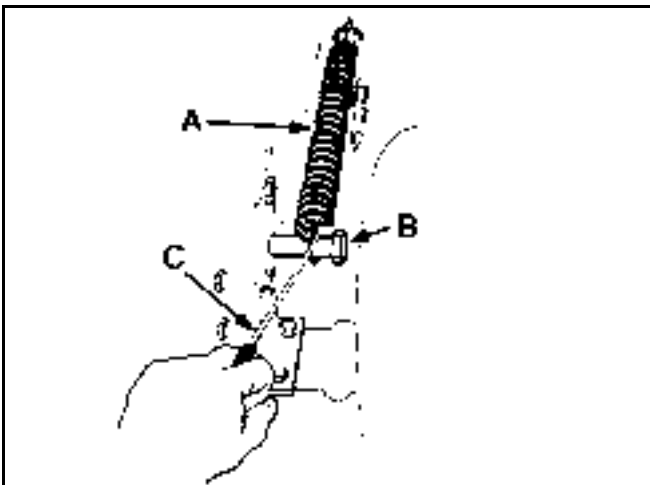

Figure 204
11. Hook the height-of-cut lift assist spring onto the retaining bolt (Figure 204), using the spring tool provided with the machine.